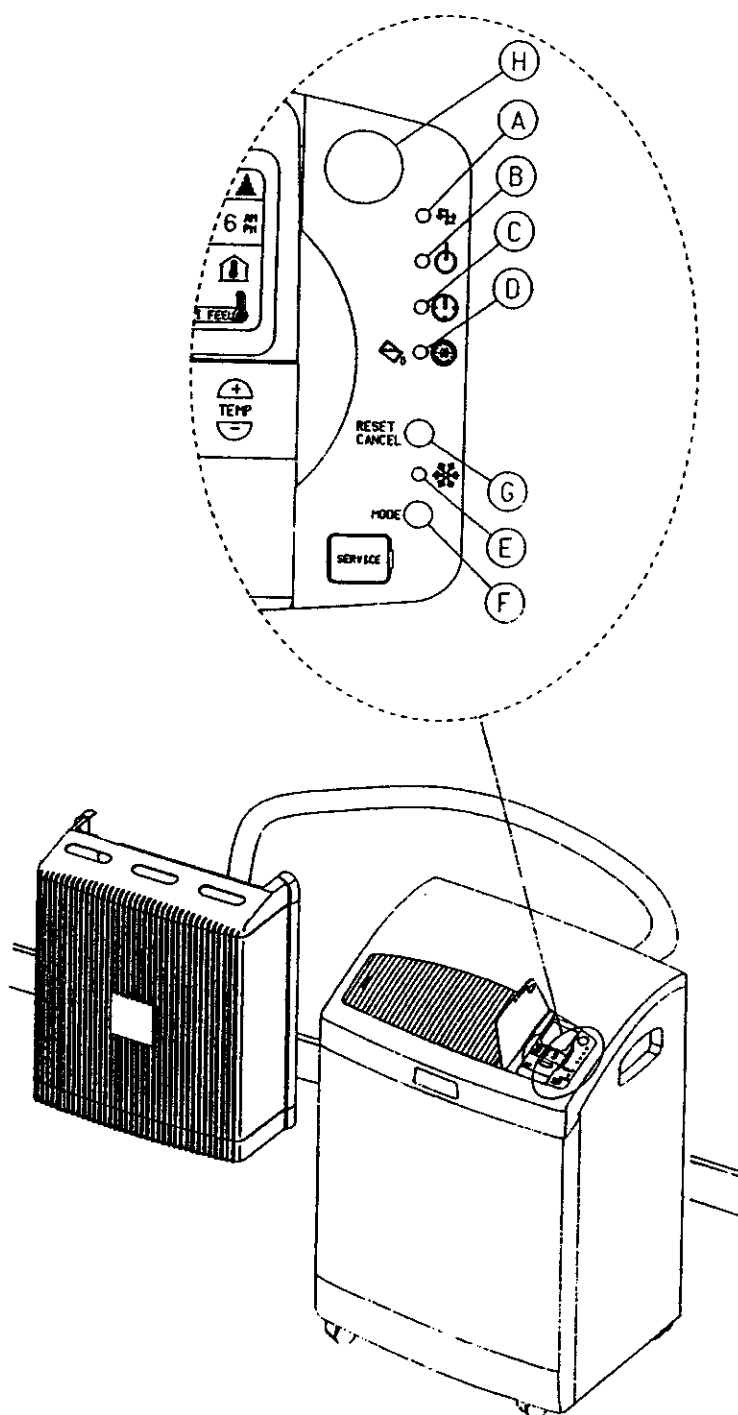

Figure 13. On-unit Indicators and Controls
□ **ON-UNIT INDICATORS AND CONTROLS** (Refer to Figure 13)
☐ OPERATION PROCEDURE (Refer to Figure 13 & 14)